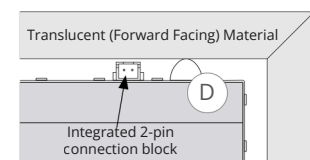
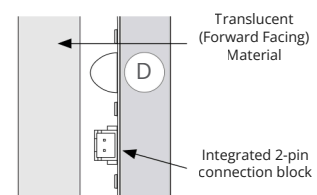

Figure 4
Figure 5
Domed protective bumpers (D): Rated for 400 lbs each, the domed protective bumpers (D) included with each Light Sheet have been engineered to bear the weight of translucent materials in horizontal applications and act as a safeguard in vertical applications so that the forward facing material does not harm the Light Sheet's integrated connection blocks or LEDs. Evo-Lite recommends using eight bumpers per Light Sheet (approximately six per square foot), spacing them evenly to distribute the weight of the forward facing material (see Figure 4) and to add a level of protection in vertical applications when the forward facing material will be positioned near the Light Sheet (see Figure 5). A rigid, non-deforming mounting surface/substrate must be used with any weight bearing applications to avoid damaging the Auragami Light Sheet.